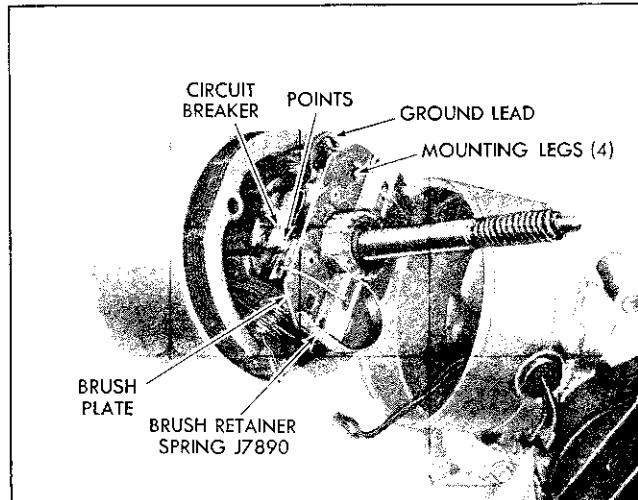

Fig. 12-33 Retainer Holding Brush in Place—Pontiac
5. Unsolder black ground lead from circuit breaker terminal, (Fig. 12-33).
7. Install U shaped brush retainer clip J 7890 over brush holder that has brush lead attached to circuit breaker (Fig. 12-33).